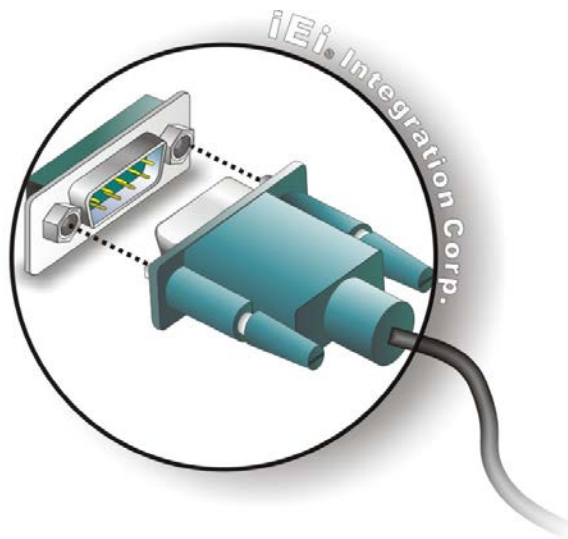

Figure 3-11: Serial Device Connector
Step 2: Insert the serial connector. Insert the DB-9 connector of a serial device into the DB-9 connector on the external peripheral interface. See Figure 3-11.